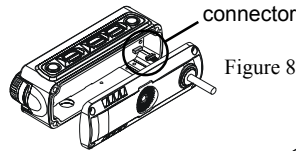
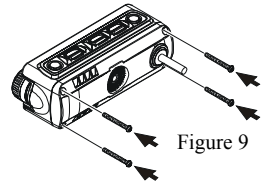

Figure 8
Figure 9
6. Attach the Connection Cable to the Printed Circuit Board (Figure 8), and then replace the Rear Case to the Front Panel using the previously removed four screws (Figure 9).